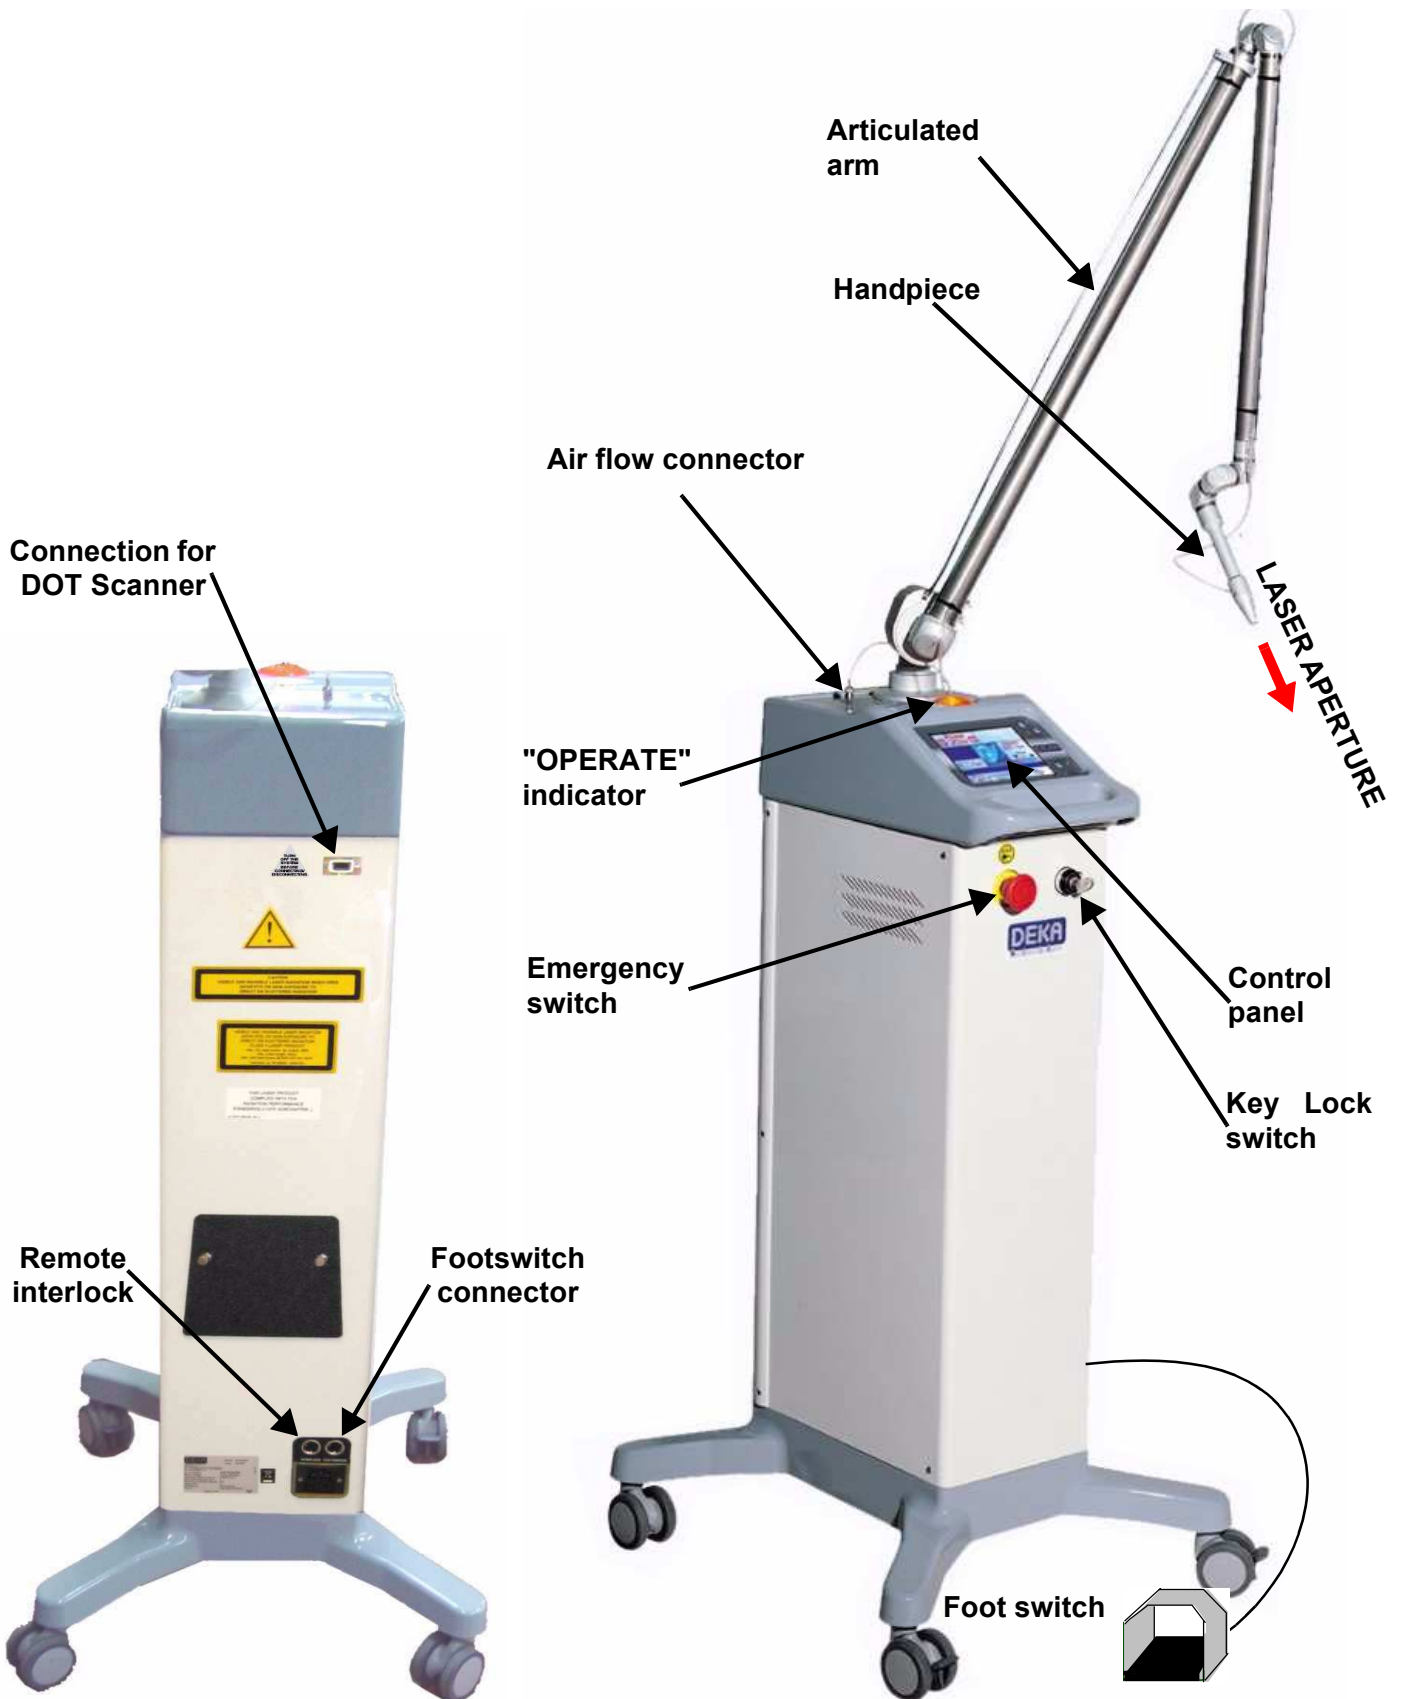
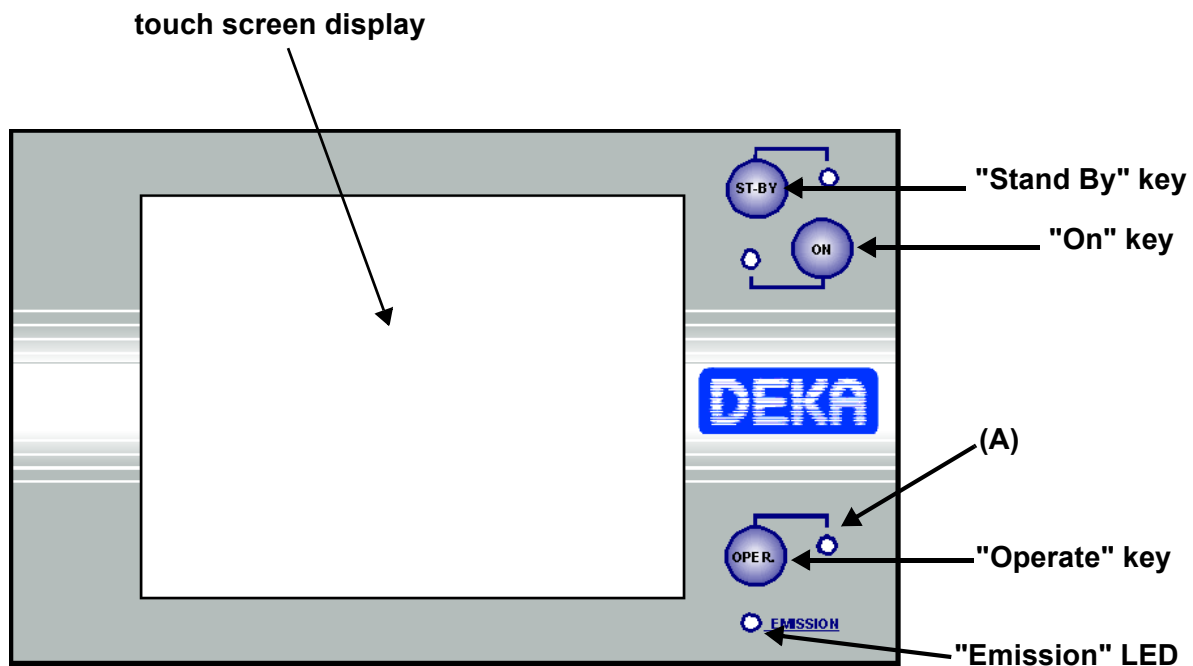

Fig. 4 - System's main external components
Fig. 6 - Control panel
To turn the system on and off use the key switch - see Fig. 4 on page 12 -. It is a double-throw switch (right-left) with removable (***only if it is in the 'O' position***) safety key. To turn the laser on, insert the key and turn the key switch to **I**. To shut the system down normally, turn the key to **O**.
The emergency switch - see Fig. 4 on page 12 - shuts down the system immediately. Use it only under emergency circumstances that is in case it is necessary for the operator to stop immediately laser emission. To shut down the system, push in the switch button. To reset the switch, rotate the button and pull out.
The control panel, detailed in Fig. 6, contains controls and displays for operating and monitoring the system.
The OPERATE key is provided with a red LED - (A) in Fig. 6 - which is lighted only if footswitch is enabled. Moreover, the system is equipped with an orange lamp - see "OPERATE" indicator in Fig. 4 on page 12 -.